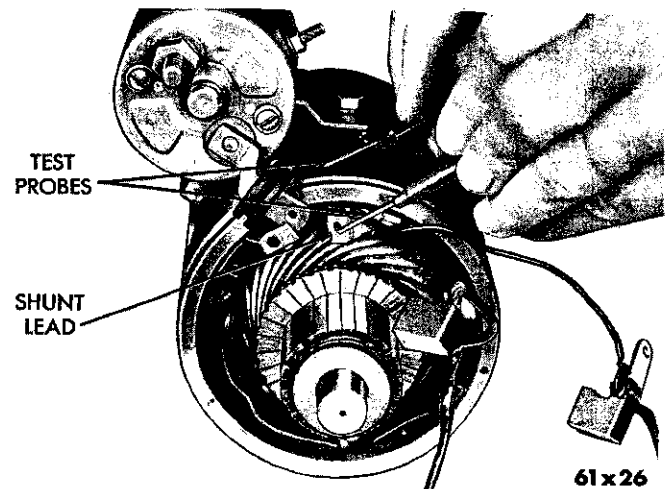

Fig. 11—Testing the Shunt Coil for Ground
(6) Touch one probe to the shunt field coil lead and the other probe to the field frame (Fig. 11).